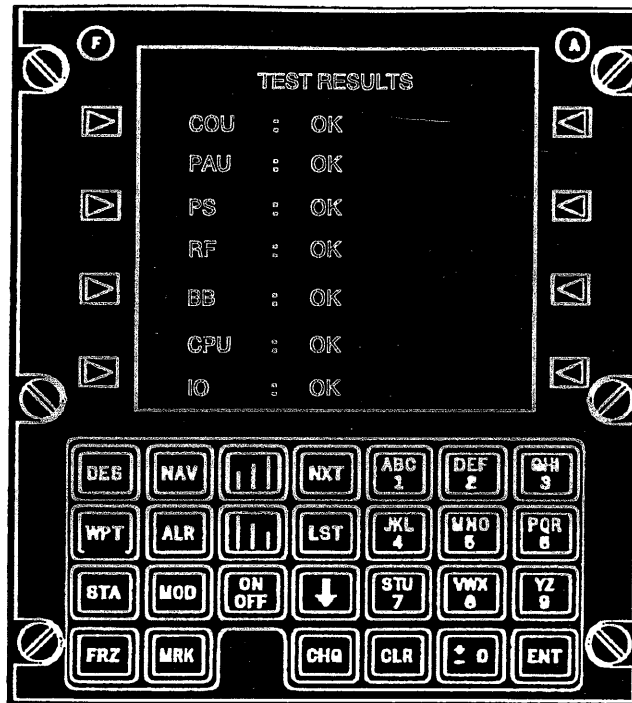

Figure 2-11
2. GPS display – Check on “TEST RESULTS” format all “OK” displayed (refer to Figure 2-11)